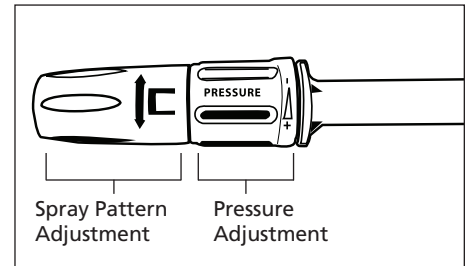

Figure 2
- Confirm that Lance is not adjusted to the Soap position – for PW1825 and PW1835 only – see Figure 2.